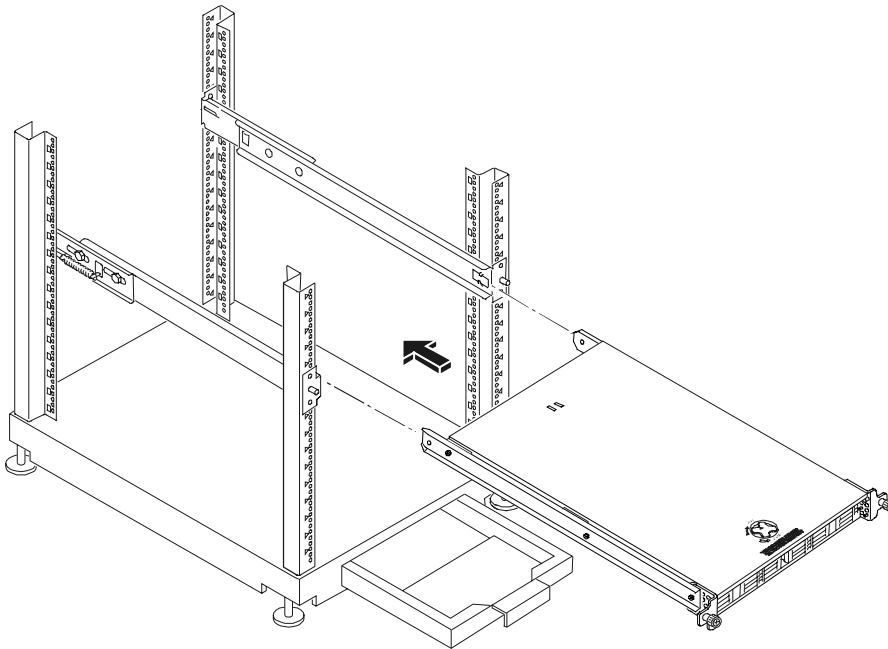

Figure 13-6. Mounting the HP Netserver
4. Move the rear of the inner-rails mounted on the Netserver just beyond the inside edge of the outer-rail assemblies. See Figure 13-6.
5. Slowly move the Netserver chassis into the outer-rail assemblies until the Netserver is completely in the rack. See Figure 13-6.